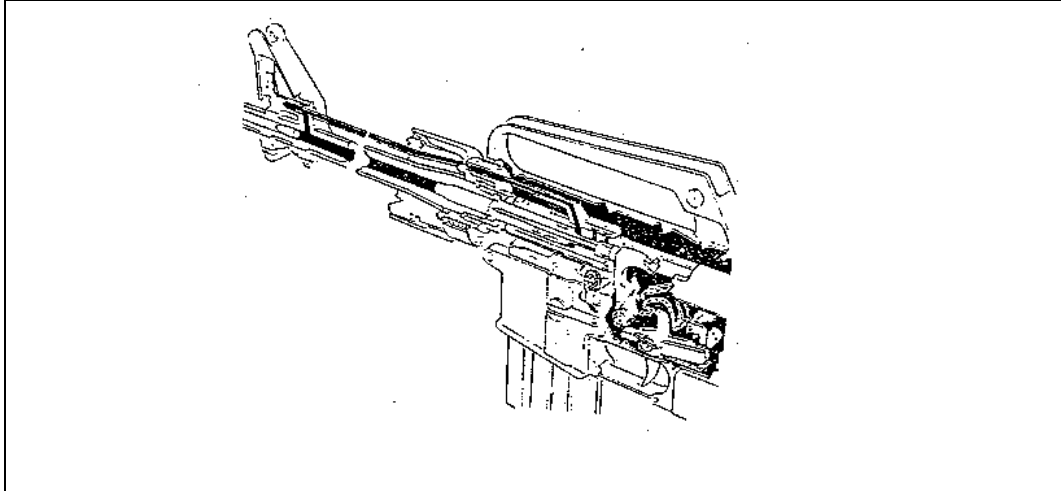

Figure 1. Gas operation of the M16 rifle.
b. Gas operation. In gas-operated weapons, a portion of the expanding gas is tapped off through a port in the barrel. The gas is vented into a gas cylinder or into a gas tube (See Figure 1). The gases moving rearward act against the operating parts, which causes unlocking, extracting, ejecting and cocking. A feed mechanism then feeds the new round. The forward motion of the bolt chambers the round and locks the breech.